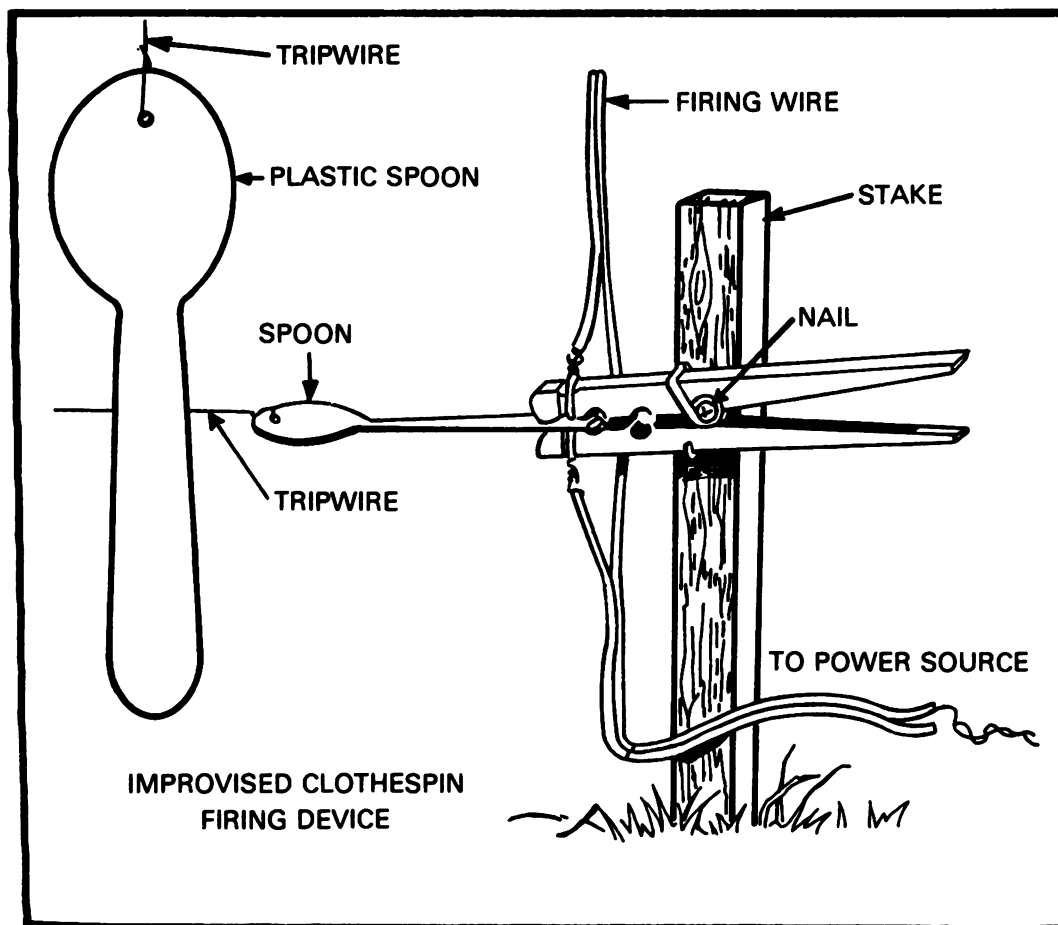

Figure 3.
4. **Connecting the Tripwire.** The tripwire will be attached to a C-ration plastic spoon (or some other nonconductor of electricity). Connect other end of the tripwire to a tree, stake, etc. (figure 3). Insert the spoon between the jaws of the clothespin. The clothespin will be firmly attached to a tree or stake on the opposite side of target area (figure 3). The tripwire should be placed about ankle-high to prevent easy detection by the enemy.